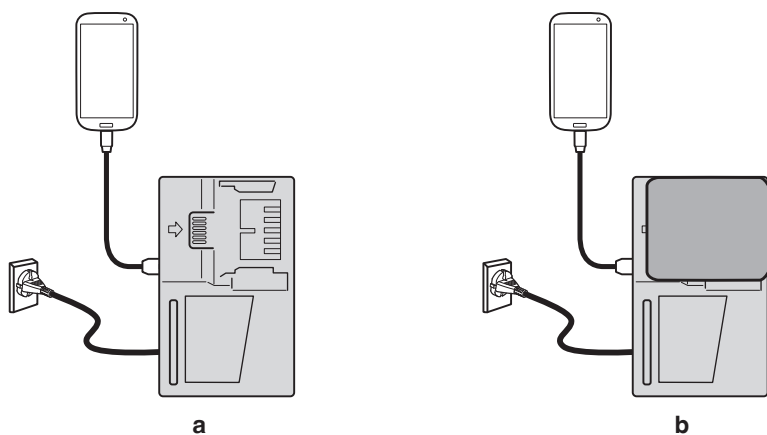

Fig. 14
(1) Select a charging method
- Charging a USB device from a electrical outlet (Fig. 14-a)
- Charging a USB device and battery from a electrical outlet (Fig. 14-b)